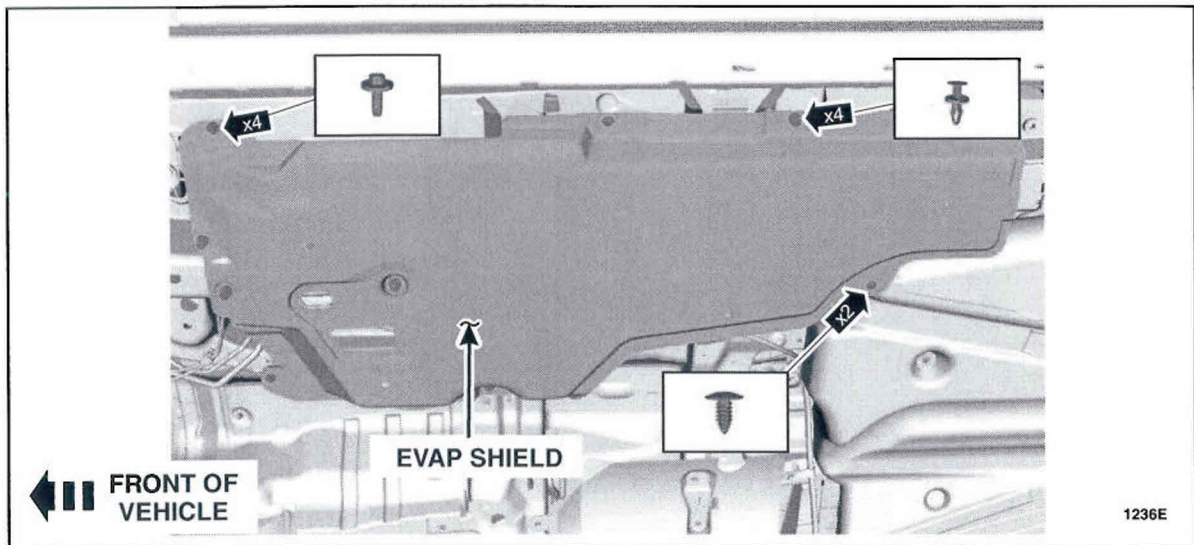

FIGURE 3
8. Remove the four bolts, four trim pins, two push pins, and the Evaporative Emission (EVAP) shield. See Figure 3.
9. Install the EVAP shield. See Figure 3.